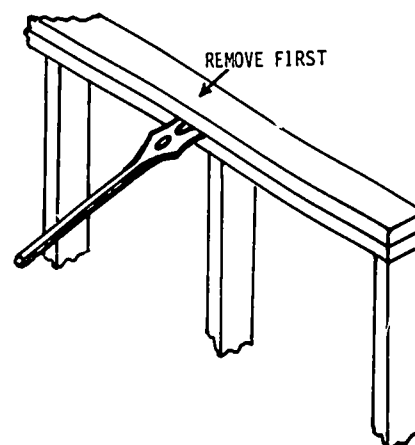

Fig. 70-74-3. Loosening Top Plate
1. Remove and salvage the remaining wiring, roof trusses, and wall studs. See Figs. 70-74-3, 70-74-4, and 70-74-5.